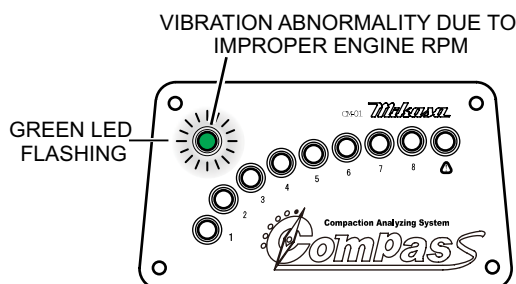

Figure 25. Vibration Abnormality Improper Engine RPM's
2. When appropriate vibration frequency cannot be achieved during operation due to improper engine RPMs (Figure 25) the green LED will flash. When this occurs check the engine RPMs and the V-belt tension as it could be loose.